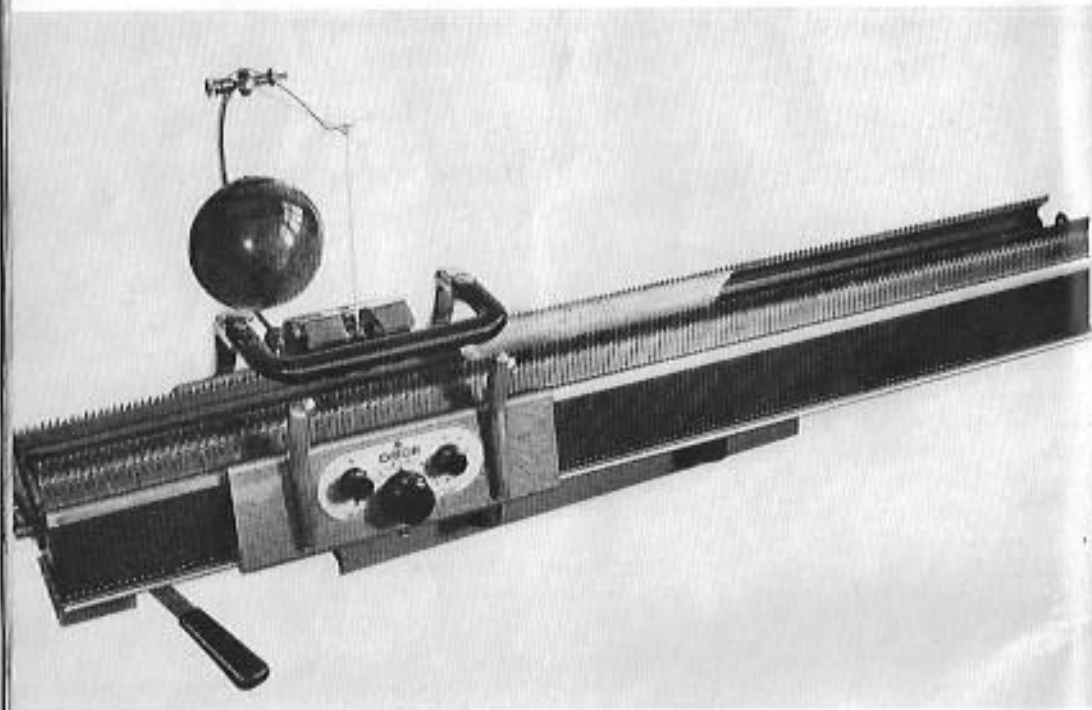

Fig. 7
Take away locking bolts (10) and loosen handle (15). Disengage the racking lever and draw the front needle bed out to the right. Alternatively, the FNB can be tipped forward (see Fig. 7). Screw the stripping rail (25) to the handle (15). The space between the stripping rail and the front needle bed should be as small as possible.
Important: Note that the tension settings for single bed are different from those on double bed. Reset to No. 5. Also remember to readjust the side weights regularly (Fig. 7). For a few rows, the FNB need not be detached, but can be tipped forward as in Fig. 7.